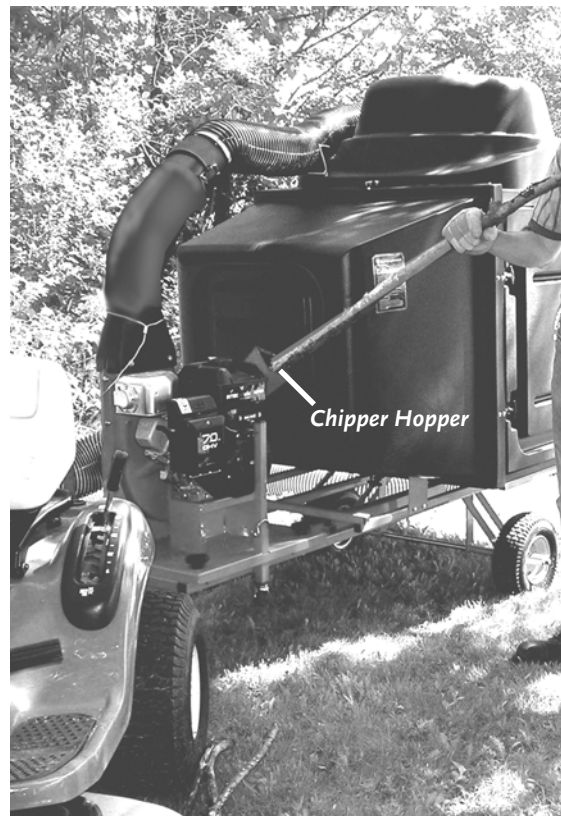

Figure 32
2. To process branches; feed them into the Chipper Hopper opening (*Figure 32*).